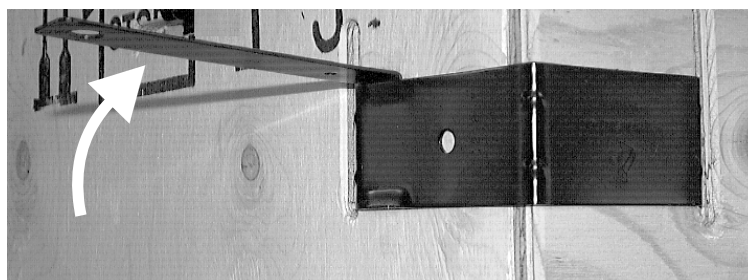

Figure 29: Removing the clips
4. Working from the top downwards, remove the clips from the rigid transport packaging. Push the clip removal tool into the recess on the clip, press against the clip to control movement and lever off (see Figure 29).